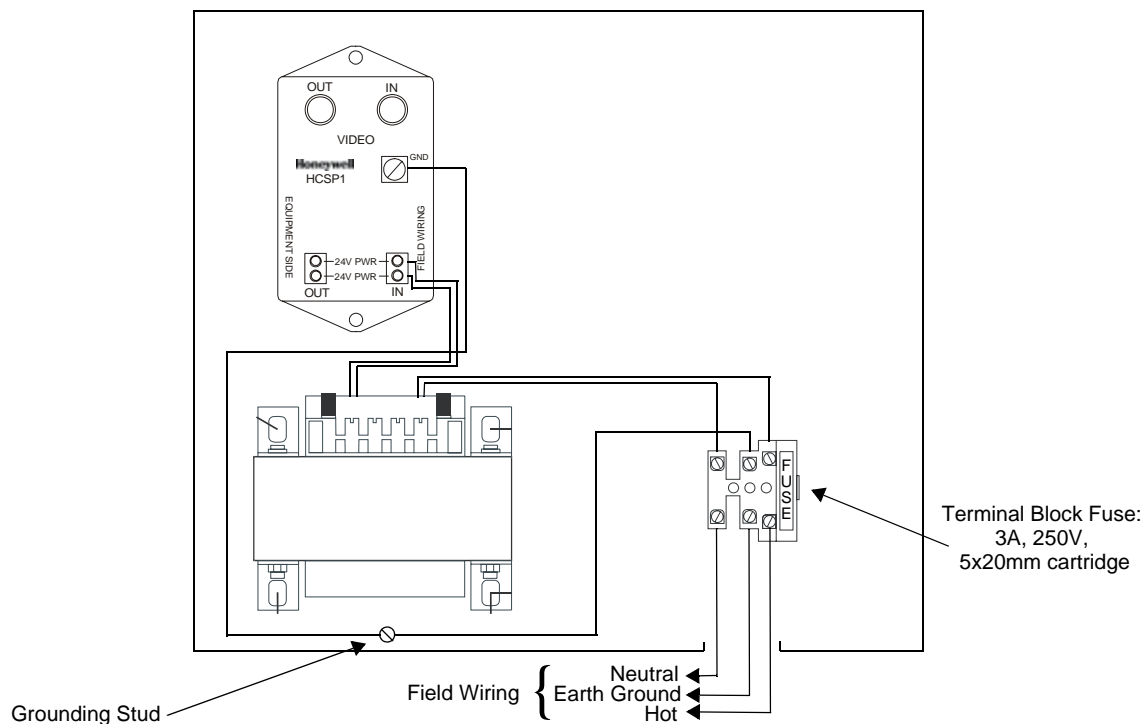
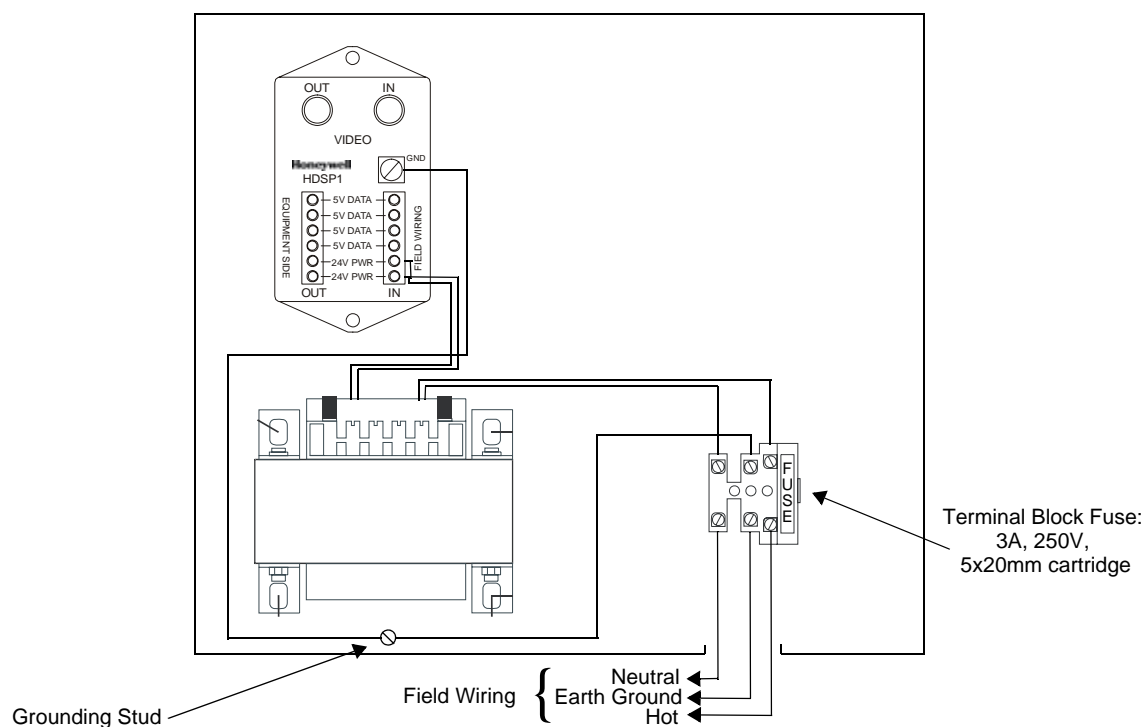

Figure 1 HPTV2401WPS • HPTV2801WPS
Figure 2 HPTV2401WPZ • HPTV2801WPZ
6. Connect incoming AC power (115V, 60 Hz, 2A) to the fused terminal block as show in Figure 1 and Figure 2.